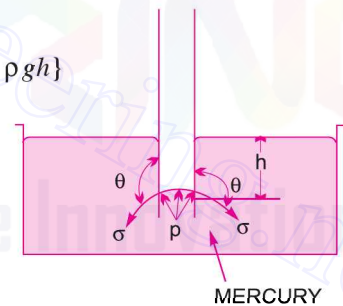

Fig. 1.14
**Expression for Capillary Fall.** If the glass tube is dipped in mercury, the level of mercury in the tube will be lower than the general level of the outside liquid as shown in Fig. 1.14.